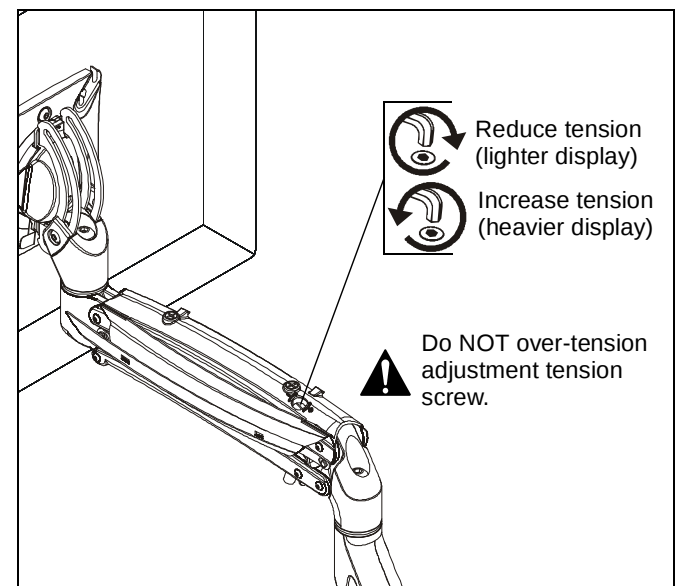

Figure 20
NOTE: Tension may also be adjusted with upper tension adjustment screw inside cable management cover and 1/8" hex key (Q). (See Figure 20)